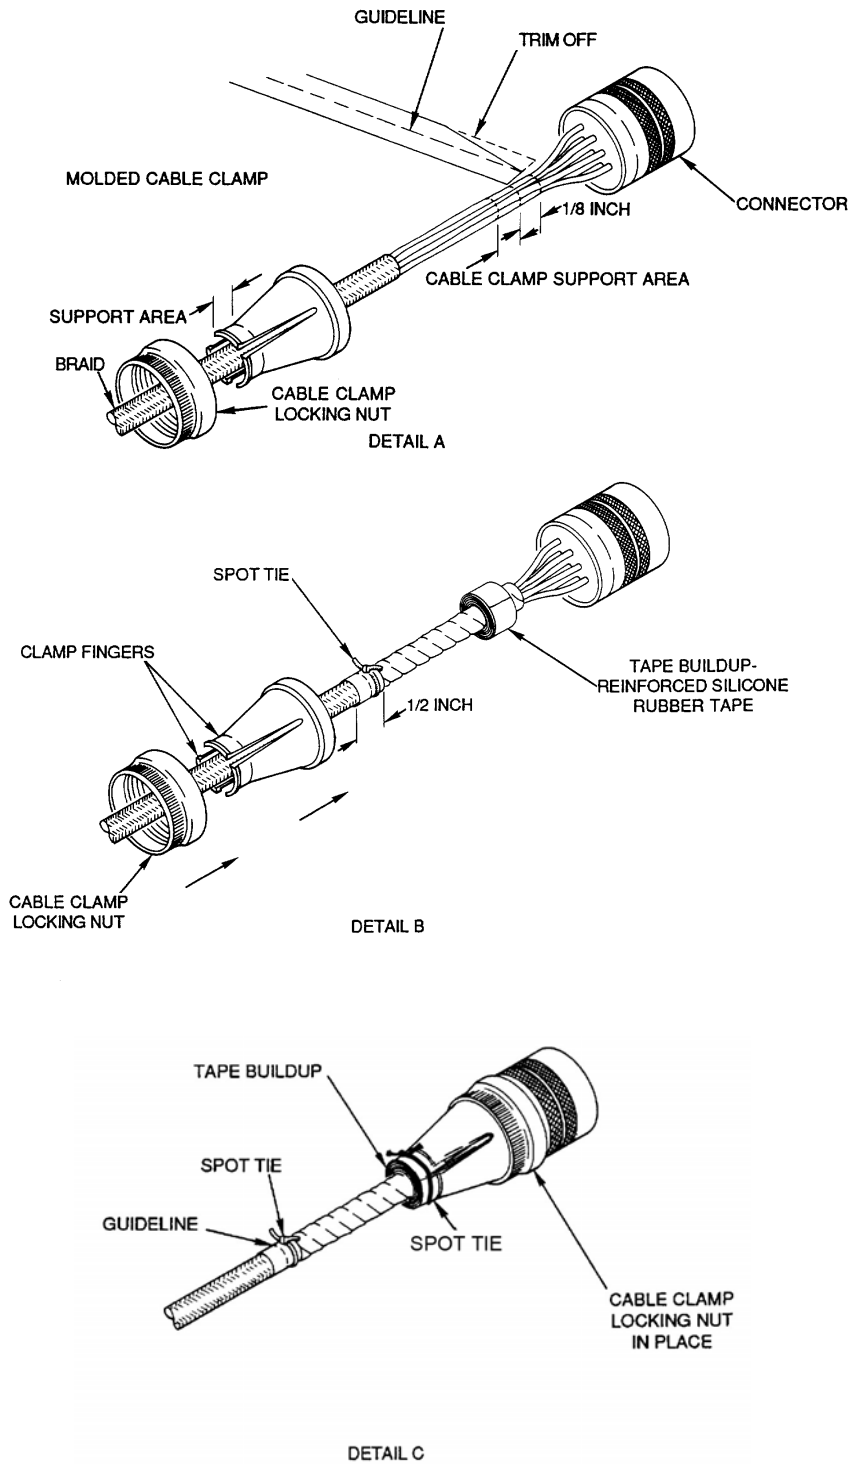

Figure 19. Termination of Overbraided Harness with Environmental Connector with Molded Plastic Cable Clamp
- c. Cut silicone rubber tape into triangular section (Figure 19, Detail A).
- e. Using 50% overlap, continuously wrap silicone rubber tape over exposed wiring until a minimum of 1/2 inch of overbraid is covered (Figure 19, Detail B).
- l. Install lacing tape/tie string (A-A-52083 or A-A-52084) and trim (Figure 19, Detail C).